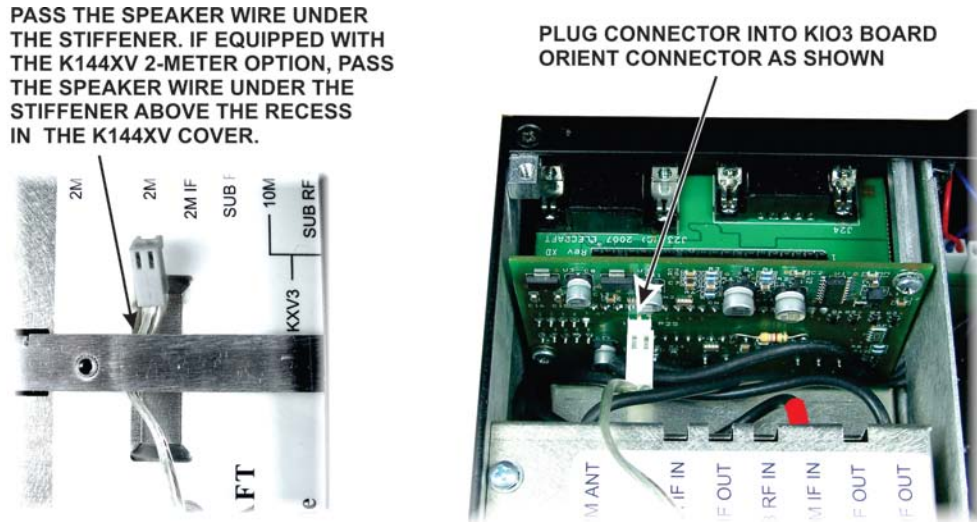

Figure 12. Reconnecting the Speaker Wire.
- Hold the top cover above the K3 and reconnect the speaker wire (see Figure 12), then replace the top cover and secure it with the nine 4-40 3/16" (4.8 mm) black flat head screws you removed earlier.